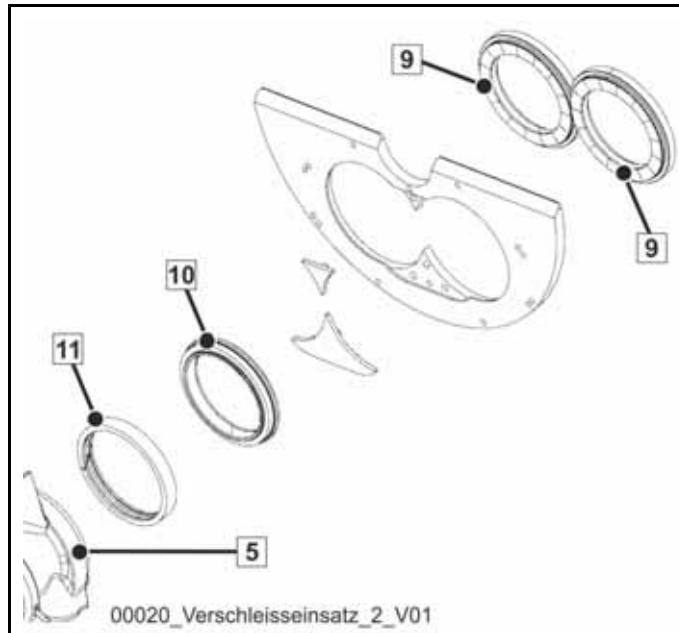

Fig. 312
A two-piece wearing insert (9) (Fig. 312) made of white cast iron with an appropriate support plate is available as special equipment.